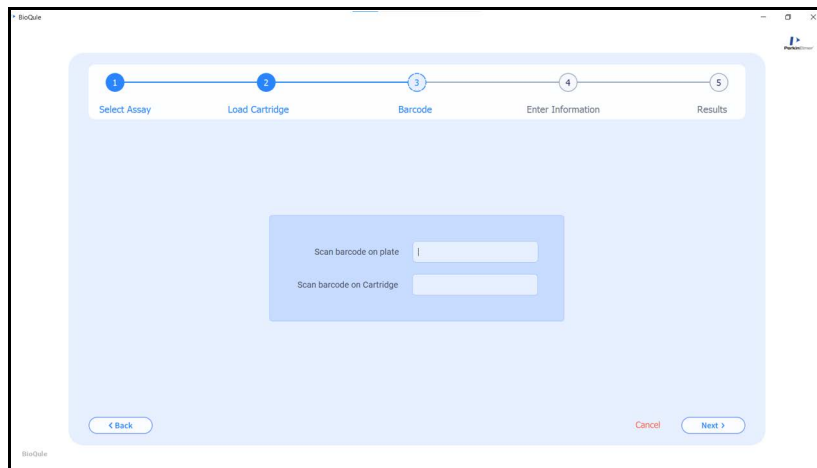

Figure 17. Barcode Window
- 10 Click the **Next** button. The Barcode window opens as shown in Figure 17.